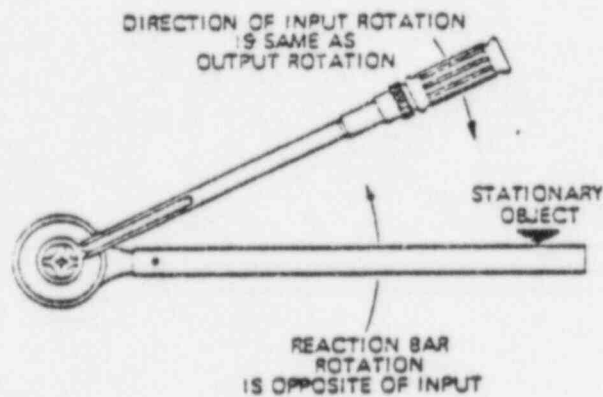

Figure 4: Typical Multiplier Operation
- e. When torque multipliers are used, a stationary object positioned so that all ratchet and multiplier handles (reaction bars) can react against it is required. See Figure 4 and Section 3.